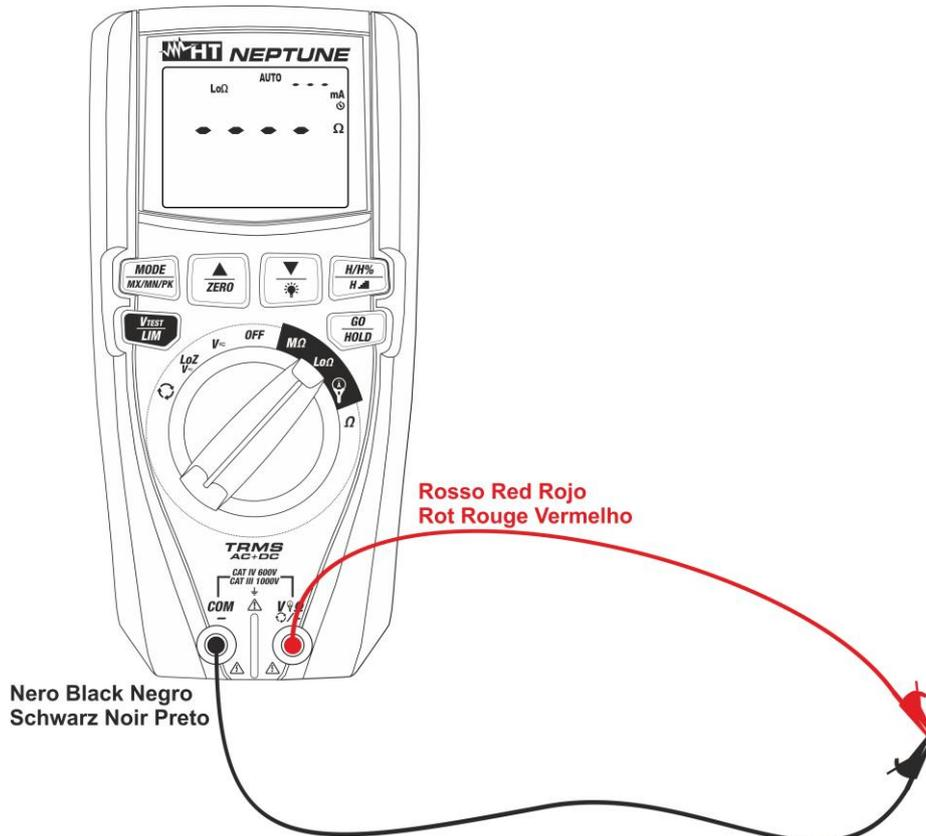

Fig. 32: Connection of the cables in compensation function
2. Insert the test cables into input terminal **V Ω +/+** and **COM/-**, connect the alligator clips and short-circuit the cable ends between each other (see Fig. 32).